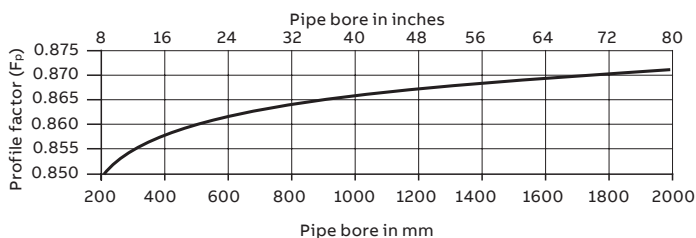

Figure 14 Profile factor vs velocity for pipe sizes 200 to 2000 mm (8 to 80 in)
- 2 Determine the profile factor F_p from Figure 14.
$F_p = 0.861$ (derived from Figure 14)